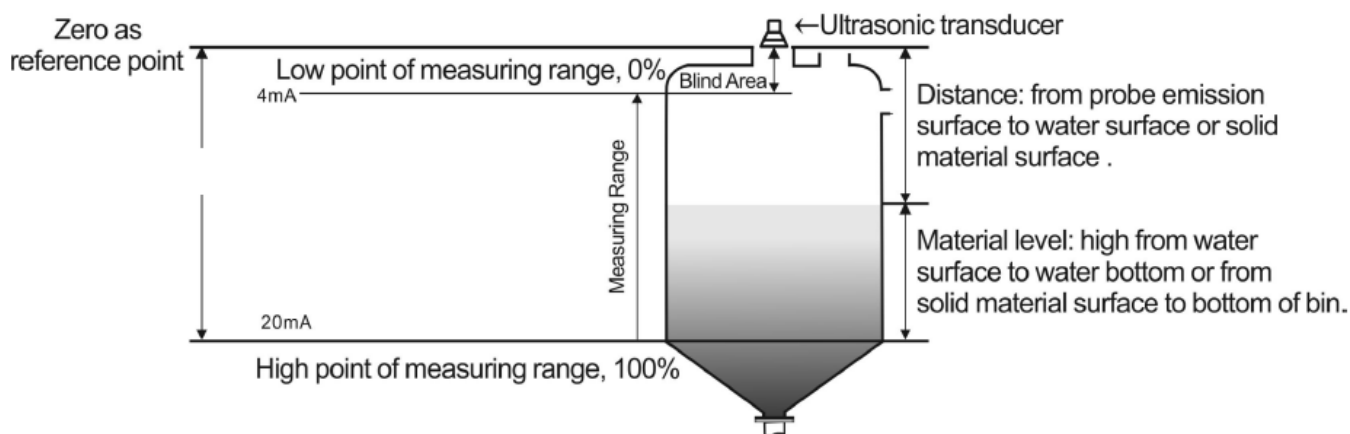

Fig. 1.1 Diagram of Distance Measurement
① Under distance measuring mode, setting of reference zero point is meaningless and the positions of maximum of measuring range and minimum of measuring range are as shown in Fig. 1.1